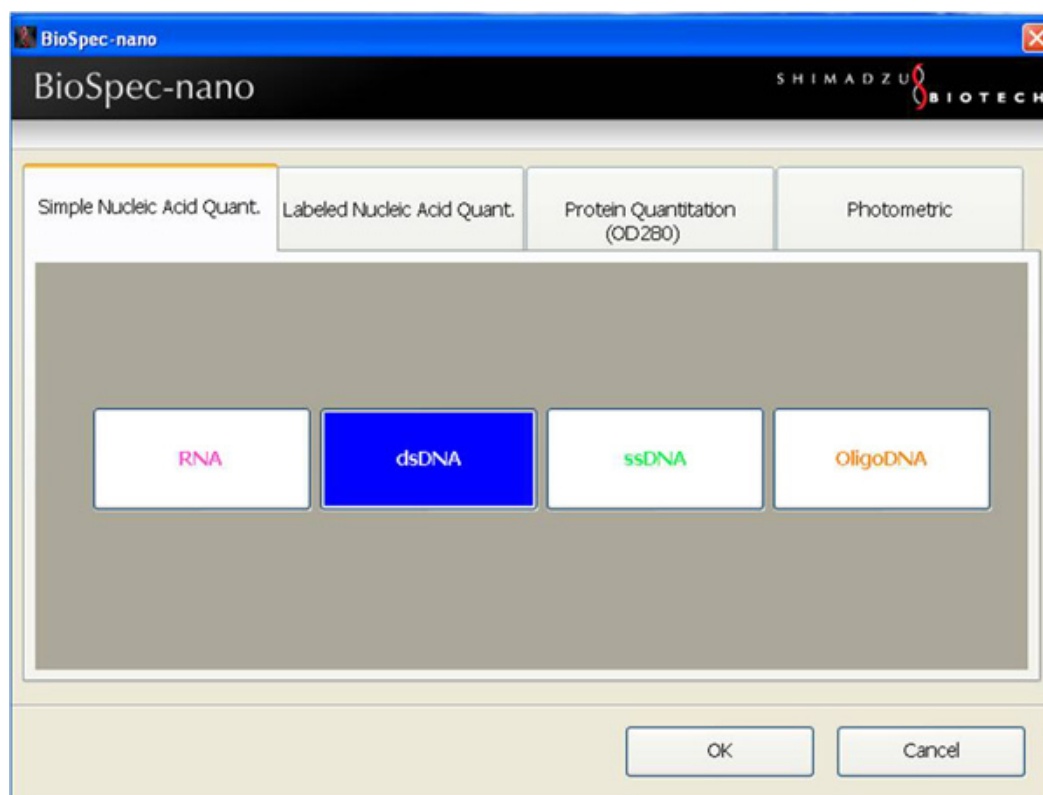

Figure 1. Analyte selection window for double stranded DNA quantitation
3. Click on the Simple Nucleic Acid -dsDNA tab (Figure 1).